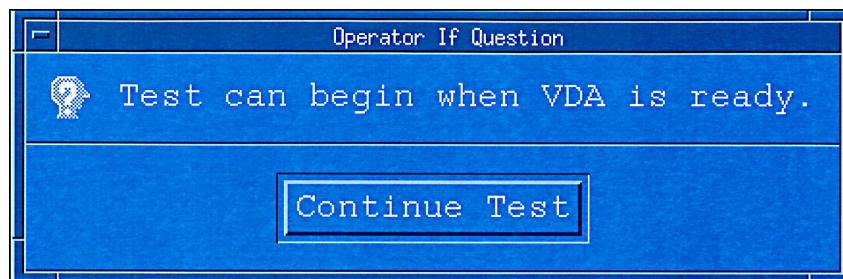

Figure 17
- 7.9.11 When the purge operation is completed, the "Test can begin when VDA is ready." Dialog box will appear. See Figure 17.